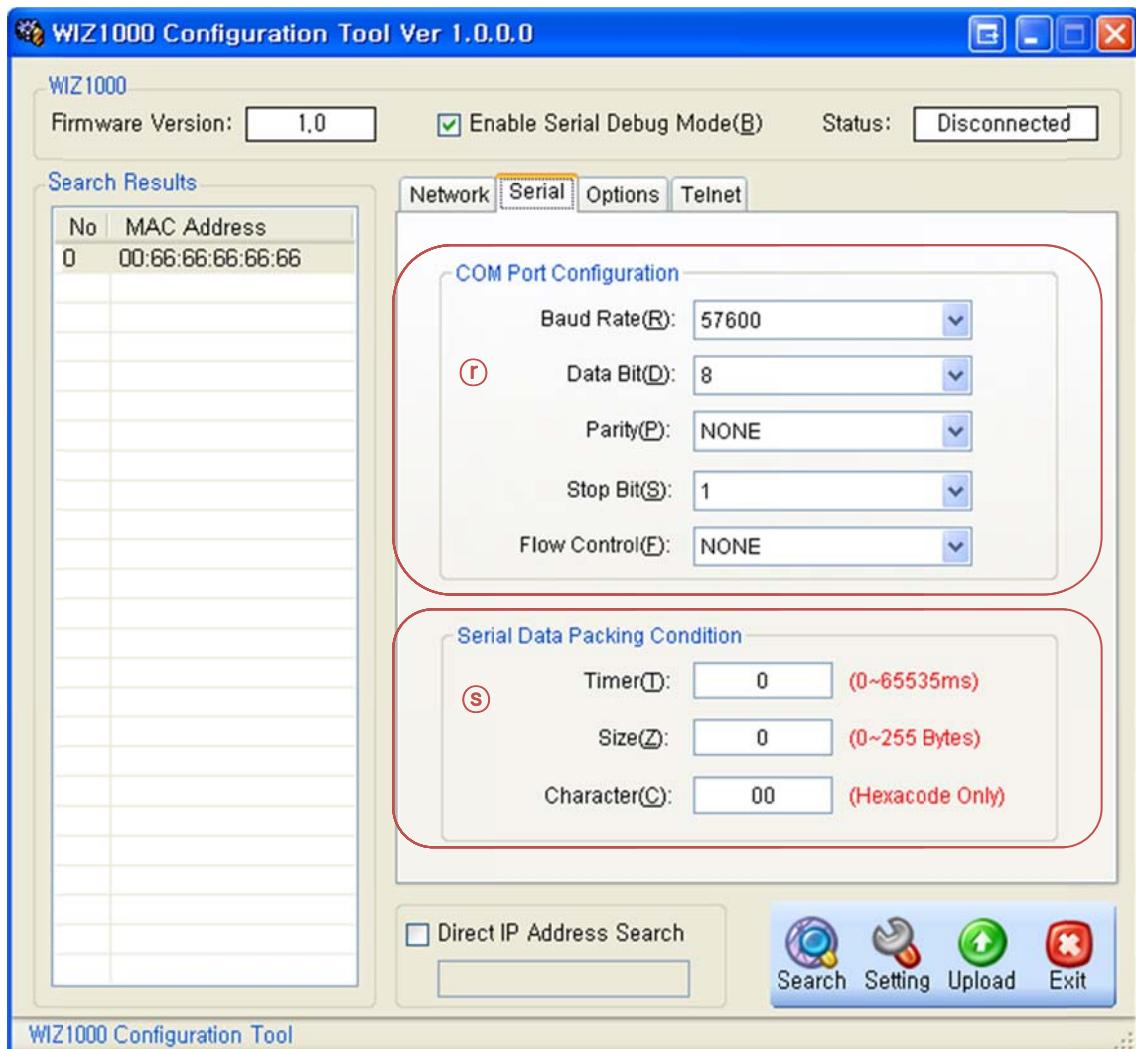

Figure 8. Configuration Tool (Serial Config.)
3. As shown in Figure 8, select Option tab and check 'Enable' combo box of "Password" menu.
⑥ Telnet Com Port Option